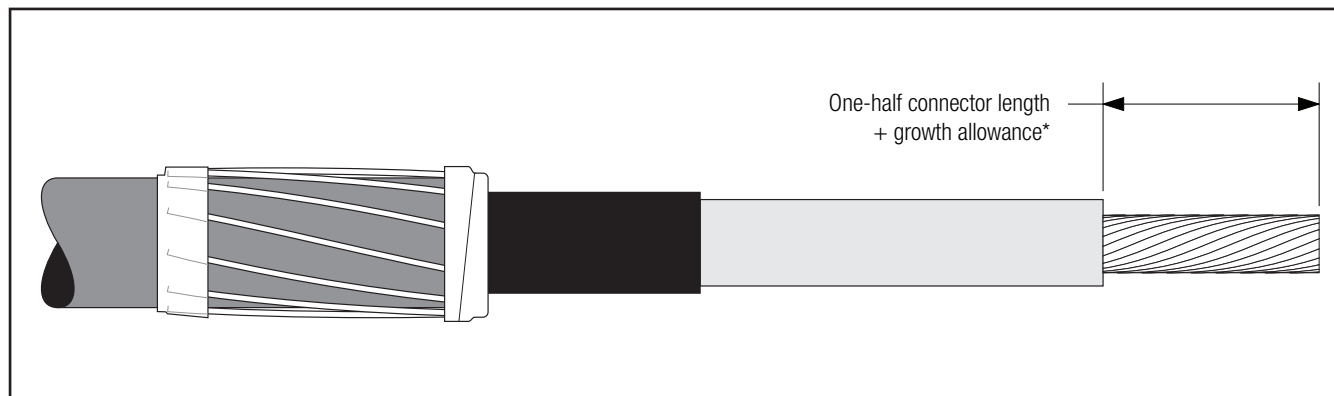

Figure 8
- 3.3 **If using a crimp type connector,** remove cable insulation for 1/2 connector length plus an allowance\* for increases in connector length due to crimping. Insulation removal length shall not exceed 2 7/8" (73 mm) from conductor end. **Do not install connector now** (Figure 8).